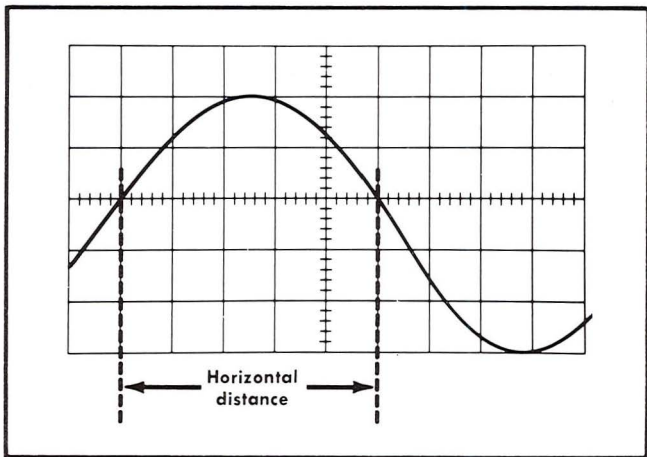

Fig. 4. Measuring the time duration between points on a waveform.
4. Set the SEC/DIV switch to the fastest sweep rate that displays less than eight divisions between the time measurement points (see Fig. 4).
Example. Assume that the horizontal distance between the time measurement points is five divisions (see Fig. 4) and the SEC/DIV switch is set to .1 ms.
Example. The frequency of the signal shown in Fig. 4 which has a time duration of 0.5 ms is: